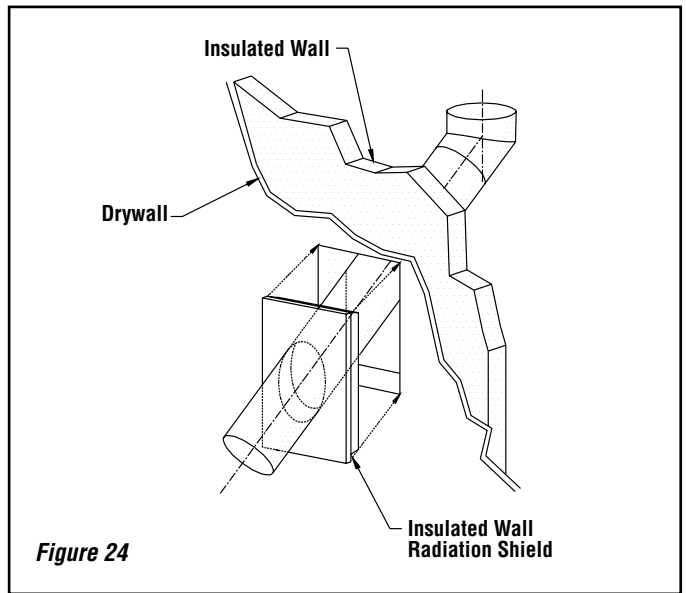

Figure 24
1. Install the first elbow; turn it in the required direction. Fasten it to the chimney with the three (3) 1/2" (12 mm) metal screws provided with the elbow.
2. Install the necessary chimney lengths to achieve the required offset. Lock the chimney lengths together: it is recommended to use three (3) 1/2" (12 mm) screws. If the offset length is made of two (2) chimney lengths or more, use an offset or roof support halfway up the offset. If penetrating a wall, install a wall radiation shield (see **Figures 24 and 26**).
3. Use another elbow to turn the chimney vertically. Secure the elbow, using three (3) 1/2" (12 mm) screws (provided with the elbow).